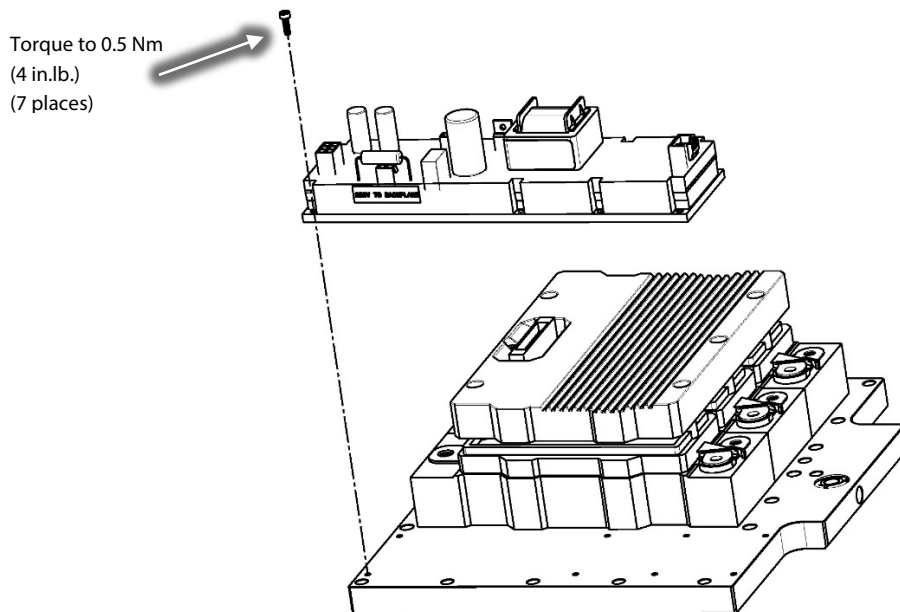

Figure 22 – HV DC-DC Removal
31. Remove the HV DC-DC from the IGBT Heat Sink Plate. Refer to Figure 22 (HV DC-DC Removal).